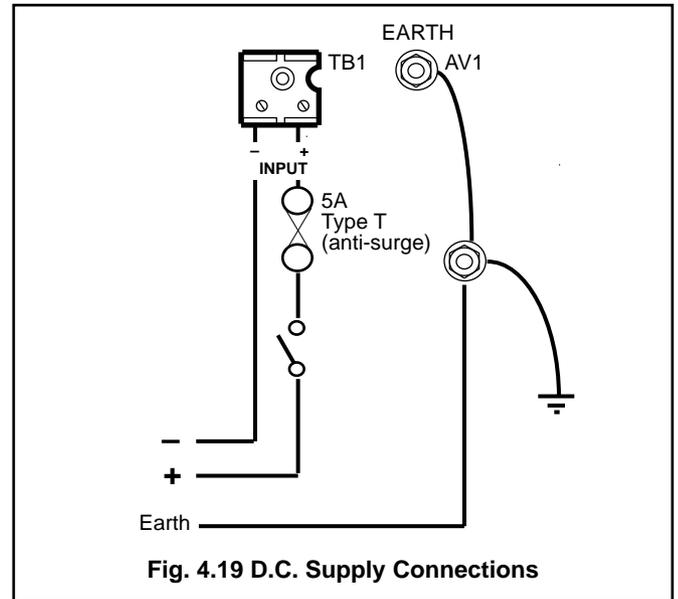

Fig. 4.19 D.C. Supply Connections
### 4.6.3 D.C. Supply – Fig.4.19
D.C. powered instruments accept a 10 to 30V d.c. supply. Make connections as shown in Fig.4.19.